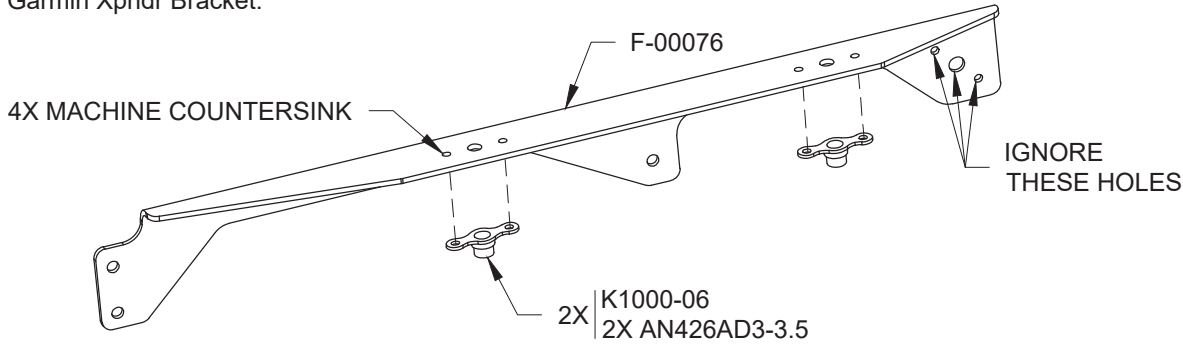

FIGURE 3: PREPARING THE RIGHT GARMIN XPNDR BRACKET
Step 4: Machine countersink the nutplate rivet holes in the other F-00076, then install the nutplates as shown in Figure 3. This is now the Right Garmin Xpndr Bracket.